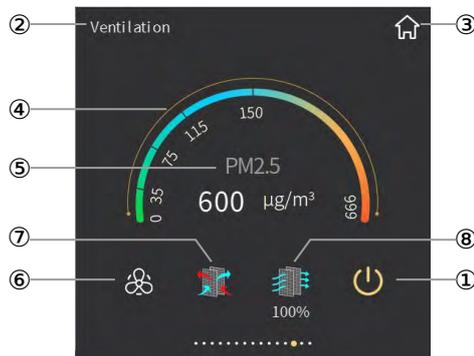
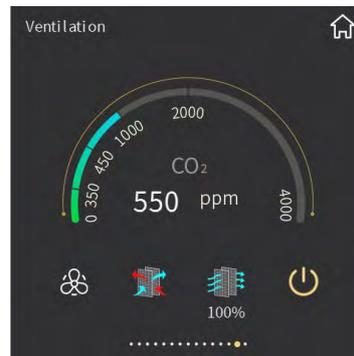

Fig.2.6.1
Fig.2.6.2
Only when auto fan speed control of ventilation system is enable would this interface display, as shown in Fig. 2.6.1 and Fig. 2.6.2.
PM2.5 concentration shown as Fig. 2.6.1, according to the value received from the bus, range 0~999ug/m³; if the data exceed 999ug/m³,then the interface will display 999ug/m³.
CO₂ concentration as shown in Fig.2.6.2, according to the value received from the bus, range 0~4000ppm; if the data exceed 4000ppm, then the interface will display 4000ppm.
There is up to 4 options for fan speed mode: Auto, Low, Medium and High. When fan speed auto control is enable, auto fan speed adjustment will be displayed on the interface, as shown in Fig. 2.6.1 and Fig. 2.6.2. Whether fan speed auto control is enable or not is configured through parameter configuration.
- ⑦ This is the heat recovery icon, used to turn on or off heat recovery function;
Whether heat recovery function of ventilation system is enable or not is configured through parameter configuration. When disable, there will be no display of heat recovery function on the interface as shown in Fig. 2.6.1; when enable, heat recovery function is turned on by default when ventilation system is ON, and the heat recovery function can be turned on or off by touching icon ⑦. The icon on indicates that the heat recovery is on; the icon off indicates that the heat recovery is off. In addition, heat recovery function can be turned on or off through the bus. After disable heat recovery, any touching of icon ⑦ will respond.
Whether the filter timer counter function is enable or not is configured through parameter configuration. When disable, there will be no display of filter timer counter function on the interface as shown in Fig.2.6.1; when enable, icon Ⓢ will be colorful after ventilation system ON, the remaining evaluation value will be displayed next to it. The value will be updated according to the use time, which will be updated through the bus.